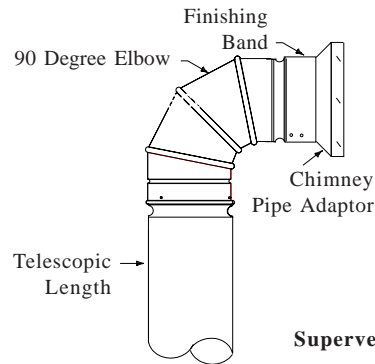

Figure 2A
Step 4. On a Through-The-Wall Installation it may be necessary to cut the Chimney Pipe Adaptor and/or the Finishing Band to the required width to be covered. Ensure that the Finishing Band overlaps the crimped end of the DSP and overlaps the bead snug to the beveled edge or to the Basecap as per Figure 2A & 2B.